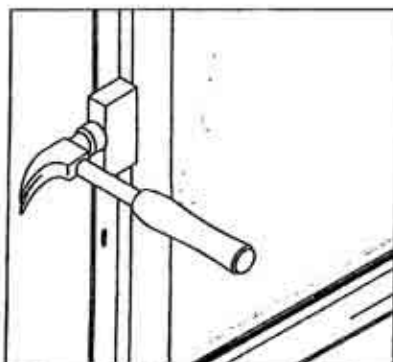
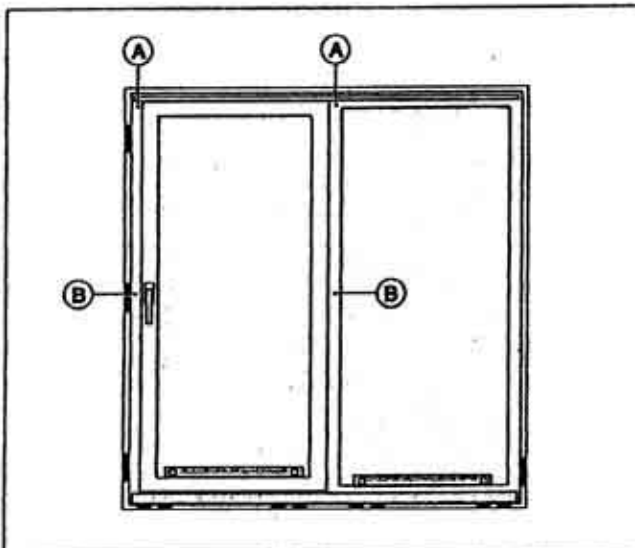

Figure 5-13. How to straighten a bowed frame
Figure 5-16. Where sashes sometimes bind
- 6.2 If the sash hardware binds at one of the top corners (See fig. 5-16 Item A), then the frame may not be plumb, or it may be out of square. Use a spirit level and make sure that the mullions and jambs are plumb and square. If the frame is not plumb or square, adjust the thickness of the jamb shims to make it plumb and square.
- 6.3 If the sash hardware binds at the midpoint on either side (See fig. 5-16 Item B), either the sash or the mullion became bowed during handling or installation, or the frame is not straight. Use a straight edge and make sure that the sash and the mullion are not bowed and that the frame is straight. If either the sash or the mullion are bowed, or the frame is not straight, straighten them as shown in fig. 5-13.